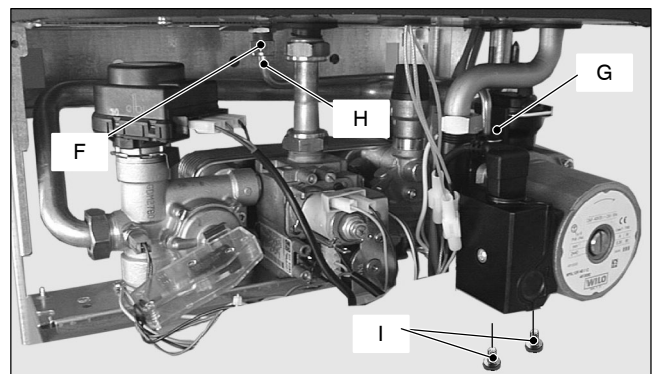

Fig. 19
- 9 Unscrew the two screws I that hold the pump on the frame (Fig. 19) and remove the pump towards the front of the boiler.